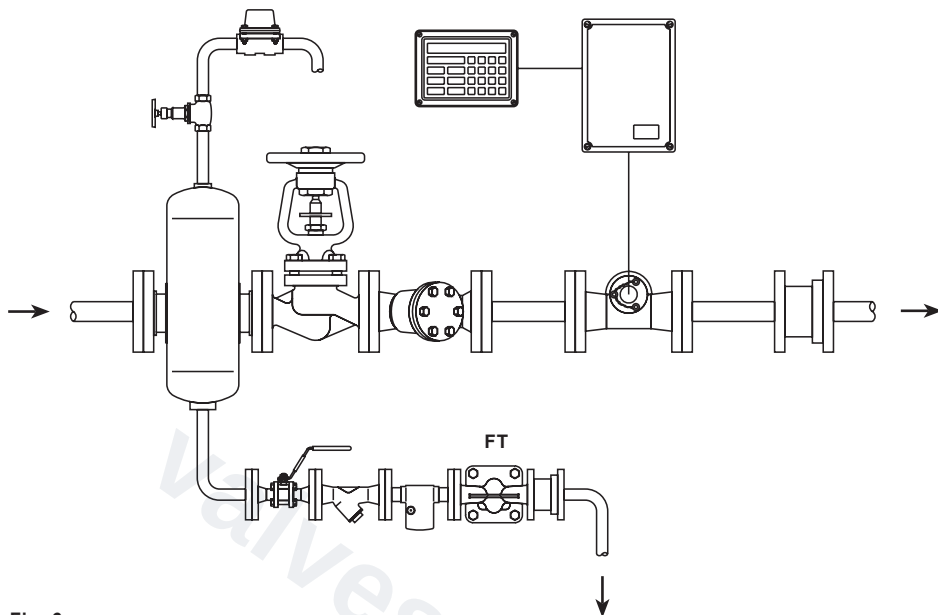

Fig. 6
- 3.5** The trap should be fitted below the outlet of the steam system, with a small drop leg immediately proceeding the trap, typically 150 mm (6") see Figure 6. If no drop leg is allowed for then it may be possible (under low load conditions) for steam to flow over the condensate in the bottom of the pipe and reach the trap.